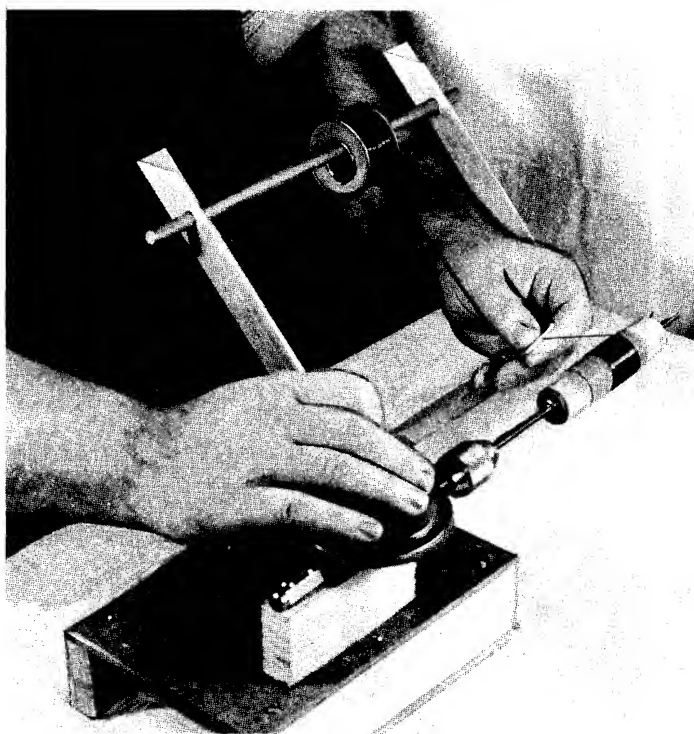

Fig. 100—Over-all view of the home-built coil-winding jig in operation. A "guide-paddle" is used to ensure level winding and professional appearance.
Winding coils is often a tedious part of the experimenter's job. When a large number of turns are required, it is difficult to get them even and close together without overlapping them. The coil winding jig shown in Fig. 100 will not only give you a professional-looking coil, but will turn out units that perform as well as factory-made coils.
5. Hold the "guide paddle" in one hand with your thumb against the wire and rotate the drill handle with your other hand (see Fig. 100). The guide paddle serves two purposes. First, with your thumb in place over the wire you can vary tension as necessary to ensure a smooth, tight winding. Second, you can guide the wire along the form to obtain either a close- or a wide-spaced winding.